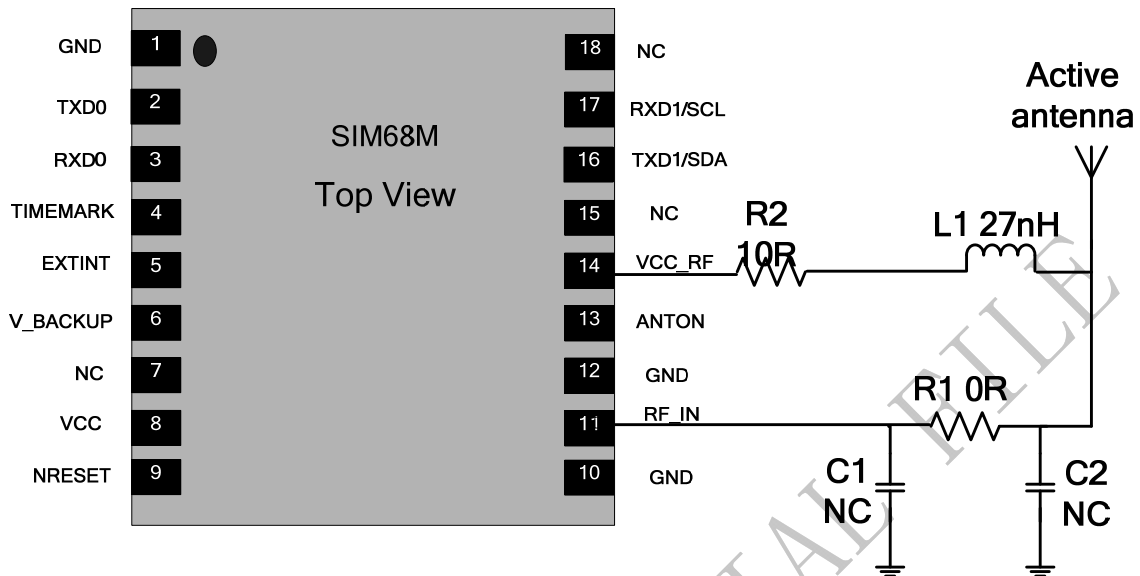

Figure 8: SIM68M Active antenna simplified design
- Usually Pin 14 VCC_RF is directly used for the active antenna power input, as shown in Figure 8. The voltage range is from 2.8V to 4.3V, typical value is 3.3V, and the max driver current is 50mA. If the VCC_RF